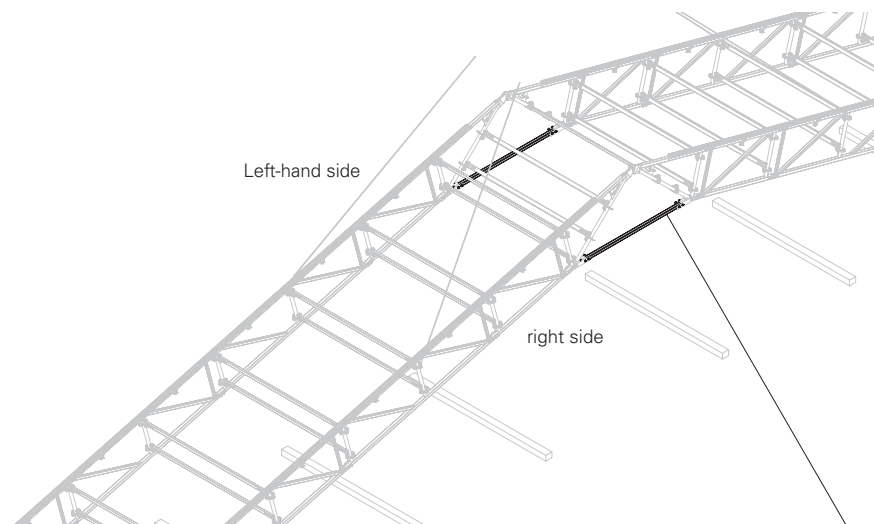

Fig. A4.02
4. Insert bolts through the holes and secure with cotter pins – 2x. (Fig. A4.02 + A4.02c)